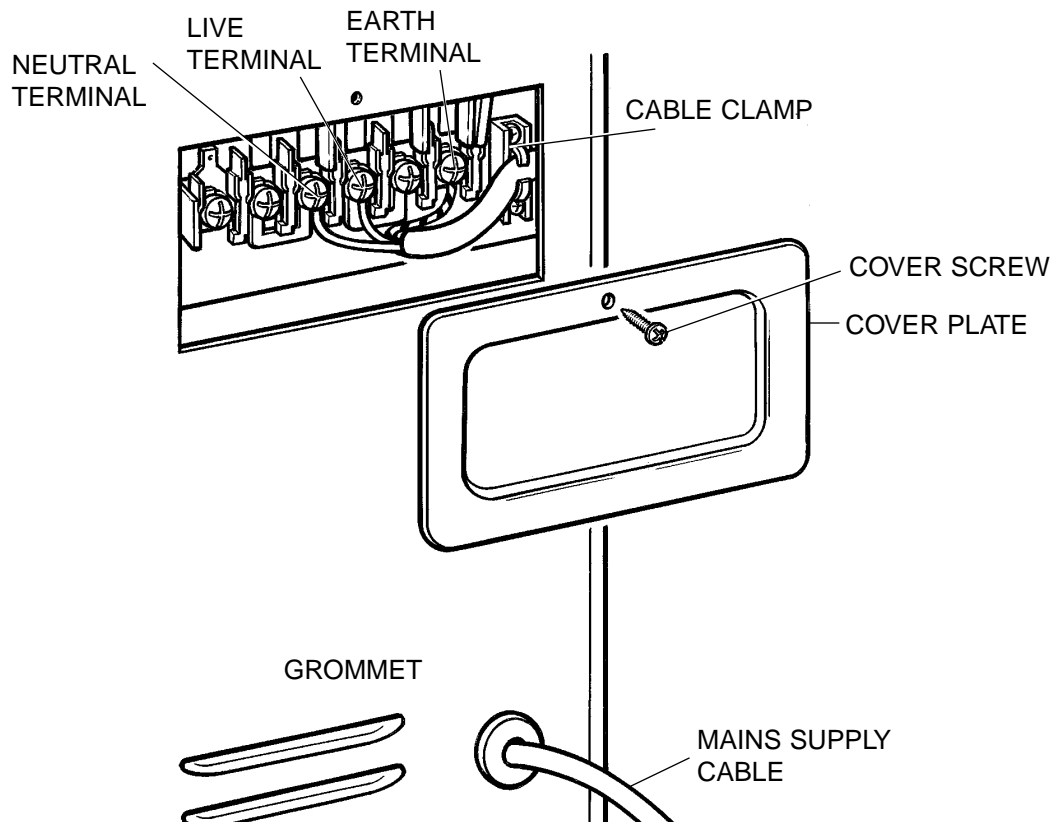

Figure 3 – electrical connections
1. Release the cover plate by removing the cover screw (Figure 3).
2. Loosen the cable clamp (Figure 3).
3. Feed the mains connection cable through the grommet in the back panel and cable clamp. Connect the mains supply cable to the terminal block on the cooker using the following colour code (Figure 3):
- The blue or black wire should be connected to the neutral terminal (N).
- The brown or red wire should be connected to one of the live terminal (L).